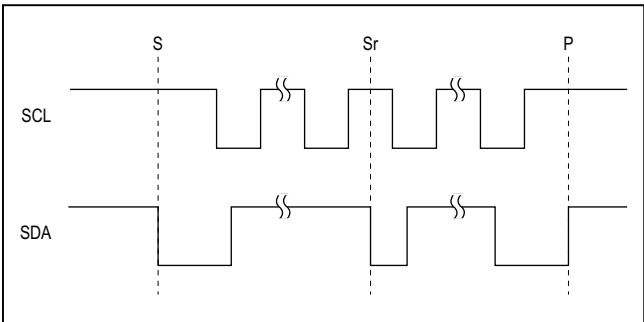

Figure 2. I2C START, STOP and REPEATED START Conditions
When writing to the MAX14646/MAX14647 using I2C, the master sends a START condition (S) followed by the MAX14646/MAX14647 I2C address. After the address, the master sends the register address of the register that is to be programmed. The master then ends communication by issuing a STOP condition (P) to relinquish control of the bus, or a REPEATED START condition (Sr) to communicate to another I2C slave. See Figure 2.